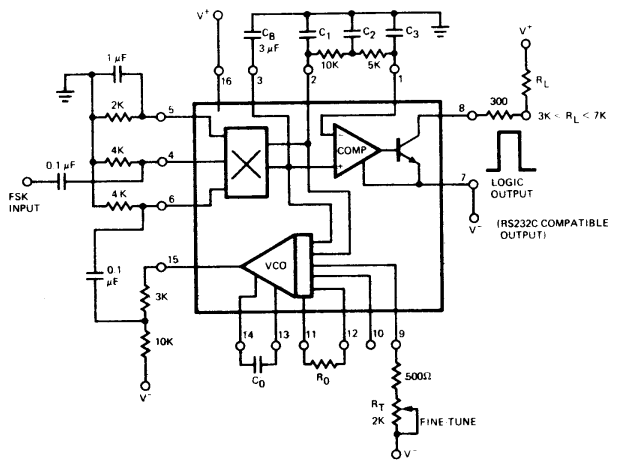

Figure 18. Split-Supply FSK Demodulation with RS232C Compatible Output
**RS-232C COMPATIBLE OPERATION** (See Figure 18): For split-supply operation, the logic output section can function as a line-driver circuit, compatible with RS-232C specifications. This can be achieved by connecting a 300Ω series resistance to pin 8, and choosing a pull-up resistor RL in the range of 3 kΩ to 7 kΩ.